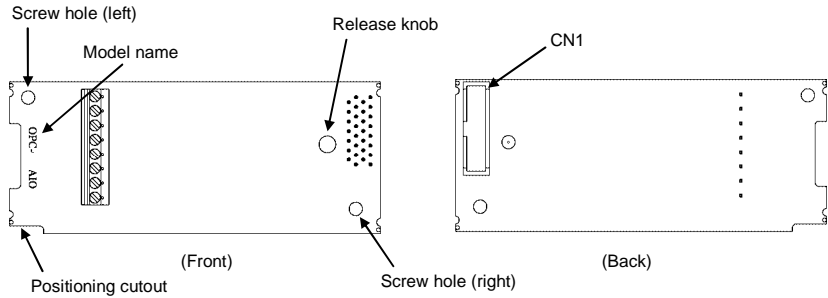

Figure 1.1 Name of Parts on Analog Input/Output Interface Card (OPC-AIO)
- (1) An interface card, two screws (M3 × 8), and the Analog Input/Output Interface Card Instruction Manual (this manual) are contained in the package.
- (2) The interface card is not damaged during transportation--no defective parts, dents or warps.
- (3) The model name "OPC-AIO" is printed on the interface card. (See Figure 1.1.)
- (2) Insert connector CN1 on the back of the interface card(Figure 1.1) into the option connection ports on the inverter's control PCB. Then tighten the two screws that come with the card. (Figure 1.3)
Check that the positioning cutout (shown in Figure 1.1) is fitted on the tab (① in Figure 1.2) and connector CN1 is fully inserted (② in Figure 1.2). Figure 1.3 shows the interface card correctly mounted.
- (3) Perform wiring on the interface card.